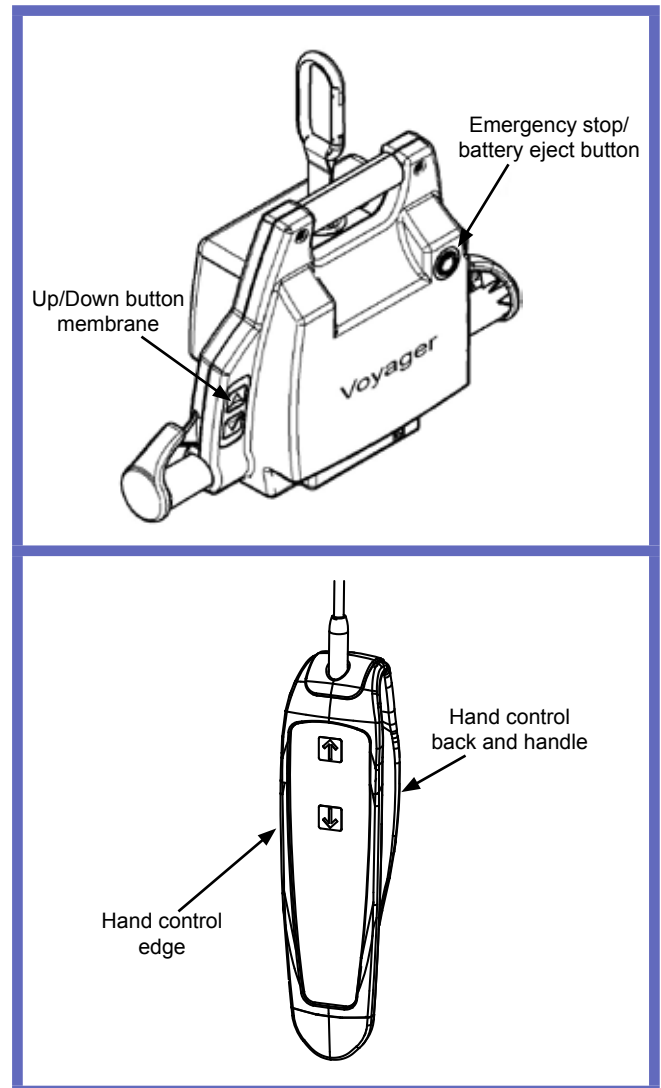

Fig. 16
**NOTE:** Pay special attention to areas pointed in Fig. 16. These are most likely to enclose germs. Use a smaller brush and/or cotton swab to reach them.